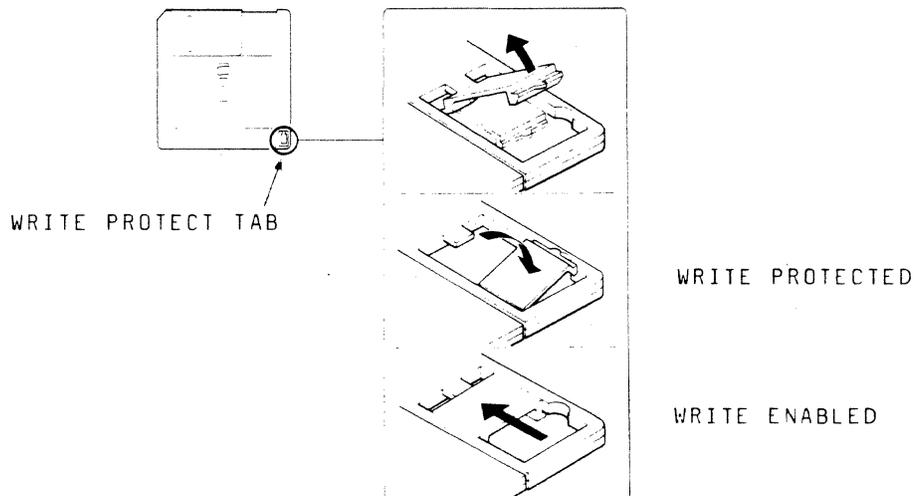

Figure B.1
1. Locate the write protect tab in the bottom side of the diskette. See Figure B.1.
3. Insert the removed tab as illustrated in Fig. B.1. With the tab in this position, the diskette is write-protected.
1. Slide the tab as far as it will go in the direction of the arrow as shown in Fig. B.1. With the tab in this position, data can be written on the diskette again.